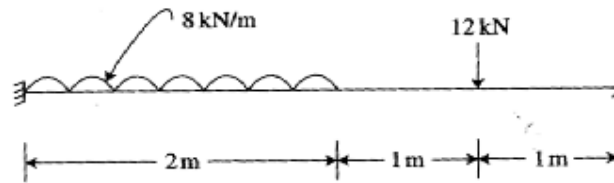

Fig.1
- 6 Using the Kani's method analyse the frame shown in fig.1.